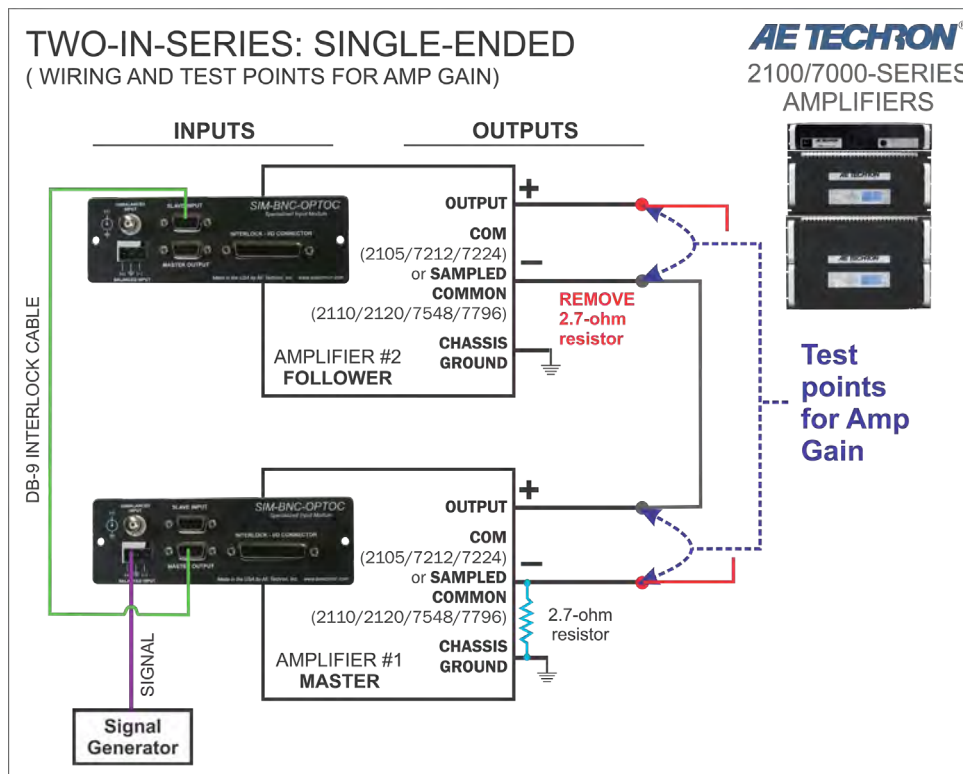

Figure 3.16 – Verifying Amp Gain
2. Apply a sine wave of 5Vrms at 100 Hz at the Master amplifier input. Using a voltmeter measure across each amplifier’s back-panel output connector terminals (OUTPUT to COM or SAMPLED COMMON) to verify an output from each amplifier of approximately 100Vrms (gain of 20). See **Figure 3.16**. NOTE: If any amplifier’s gain varies significantly from the set gain of 20, the amplifier may require servicing. Contact AE Techron Technical Support.